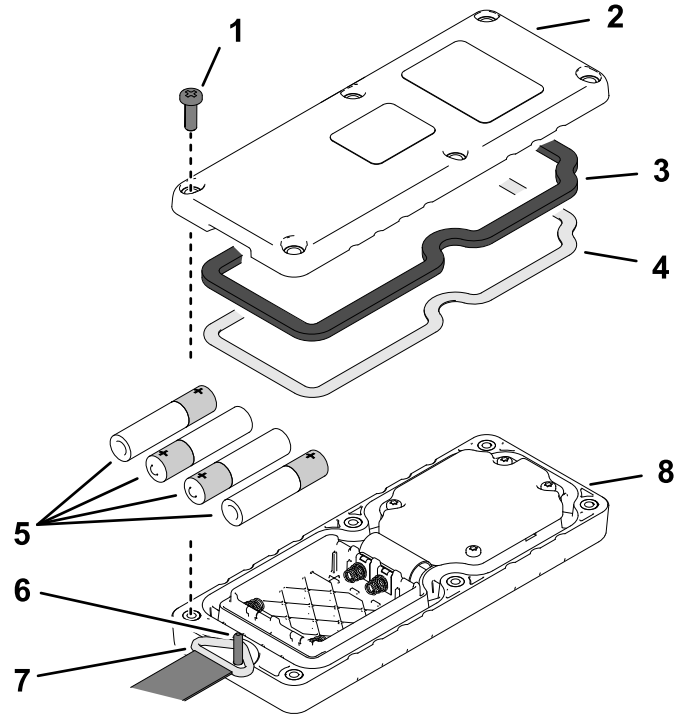

Figure 52
1. Remove the 6 screws securing the cover halves of the handheld remote together, and remove the back cover (Figure 52).
4. Ensure that the steel gasket and rubber seal are seated in the channel in the cover half and align the back cover to the front cover (Figure 52).
5. Align the lanyard ring over the lanyard pin (Figure 52).
6. Assemble the back cover to the front cover with 6 screws (Figure 52).